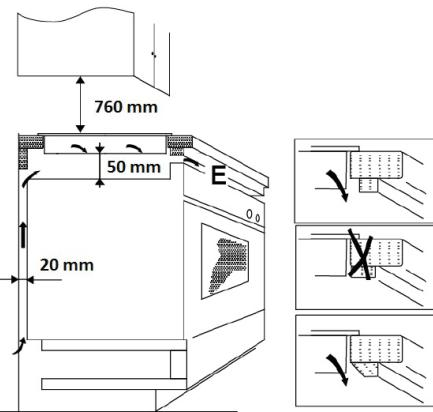

Fig. 8
- A separate cabinet without a cooking hood should be at least 760 mm above the hob (Fig. 8).
- For sufficient air circulation the appliance needs to be installed as shown in Fig. 8 and the cabinet must be designed so that the air can flow at the bottom. Make sure that the ventilation space of 20 mm, between the drawer and the rear wall and 50 mm between the drawer and the hob, is free (Fig. 8).